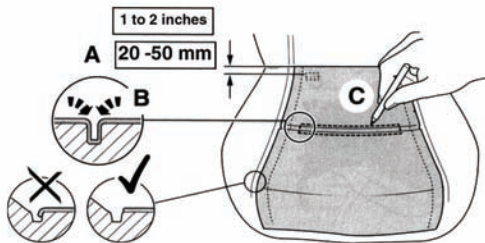

Figure 4
8. Position the heating pad with the label facing down and the wire harness routed towards the back of the seat area. Adjust the pad so the thermostat is located approximately 1-2 inches (25-50 mm) forward of the back rest. In cases where the seat cushion contains lateral grooves (side to side) to allow for trim cover attachment, a section of the heating pad will need to be cut out. Refer to Figure 4.